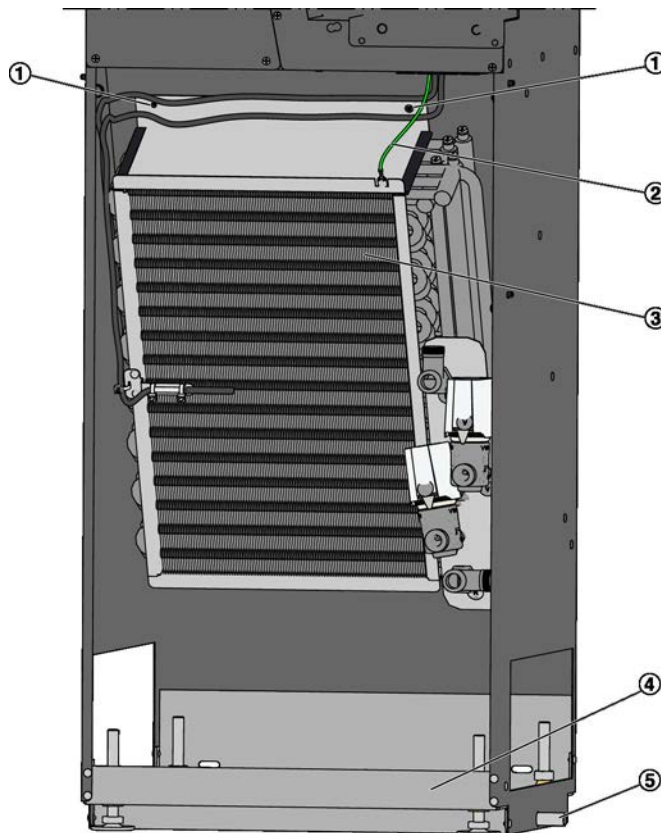

Fig. 23: Fine dust filter
Remove the protective conductor (Fig. 23/2) from the heat exchanger.
Loosen the two Phillips screws (Fig. 23/1); you can then pull the heat exchanger (Fig. 23/3) up and out of the unit.
- Clean the condensate drip tray (Fig. 23/4) with a commercially available cleaner or disinfectant.
- Check that the condensate drain (Fig. 23/5) (optional) is not blocked.